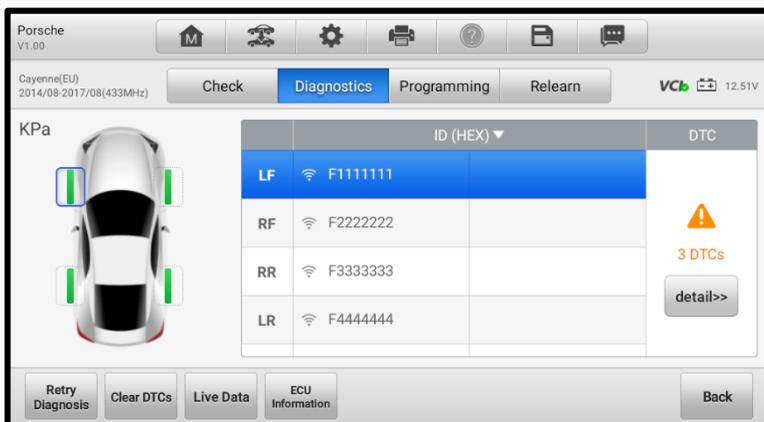

Figure 6-18 Diagnostics Screen 2
3. If the OBD function is not supported by the test vehicle, the sensor ID saved in the TPMS ECU cannot be retrieved and only the sensor ID retrieved from sensor activation will display on the screen with a signal icon. See *Figure 6-18 Diagnostics Screen 2* for details.